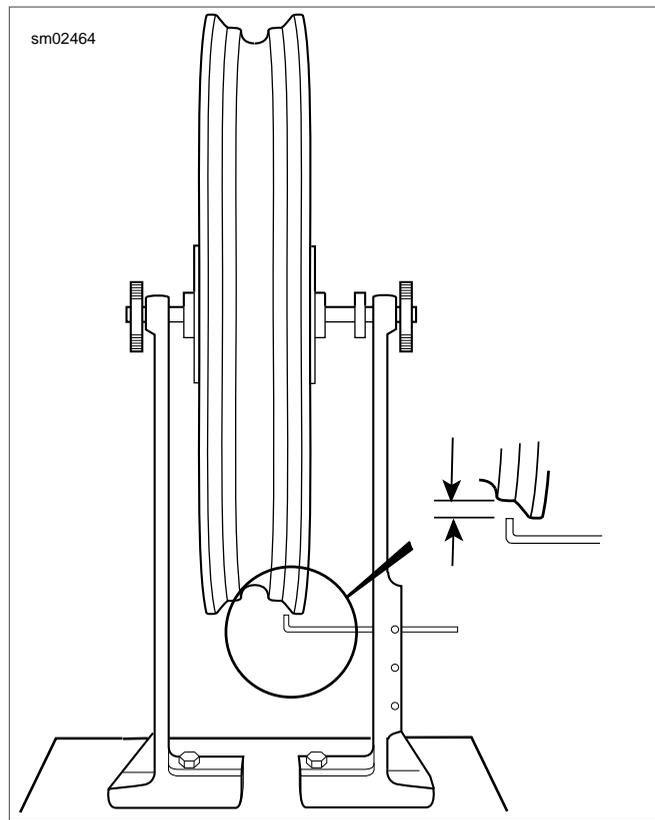

Figure 2-33. Truing Rim Radially
- See Figure 2-33. Adjust truing stand gauge to the rim's tire bead seat as shown. The rim should be trued within 0.030 in. (0.76 mm).